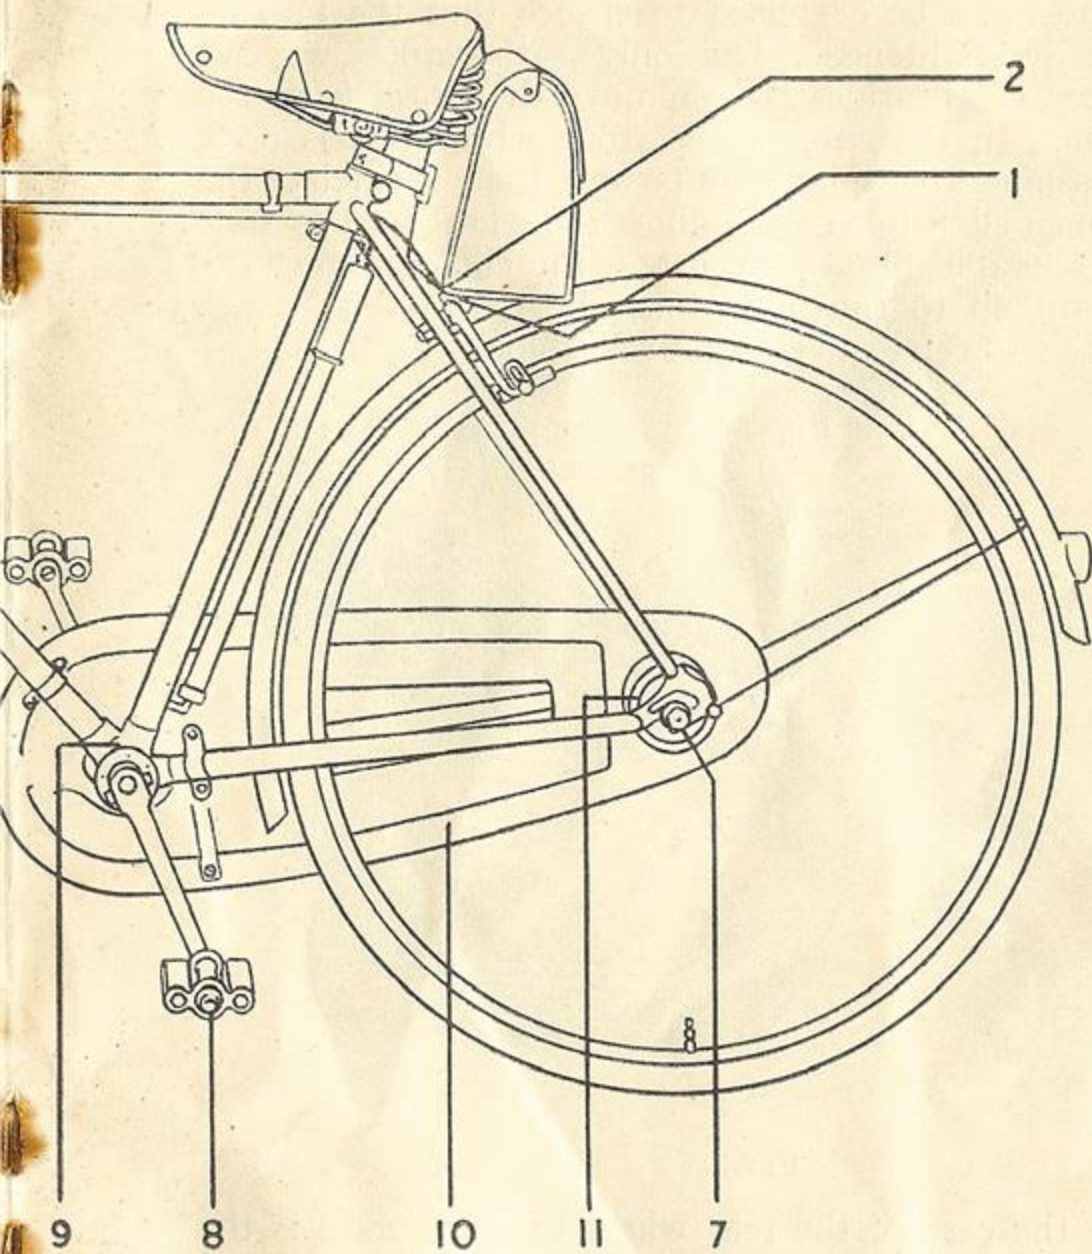

FIG. 8
- 5     **Lubrication.** Lubricate both wheel hubs, bottom bracket bearing, pedals and steering head once a fortnight, using a good quality light cycle oil ; Fig. 8 shows the position of the various lubricating points. At the same time place a spot of oil on the brake lever pivots, brake guides and swivels, and in the case of three-speed and four-speed models on the gear lever and pulley and on the gear control chain where it enters the hub spindle.